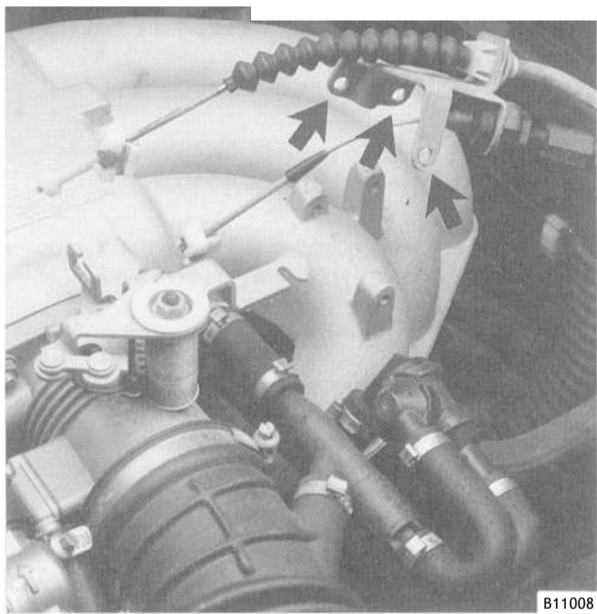

Fig. 2. Cable bracket shown removed. Bracket mounting points shown at arrows.
9. Unhook the accelerator and cruise control cables from the throttle levers. Remove the cable bracket from the intake manifold. See Fig. 2.